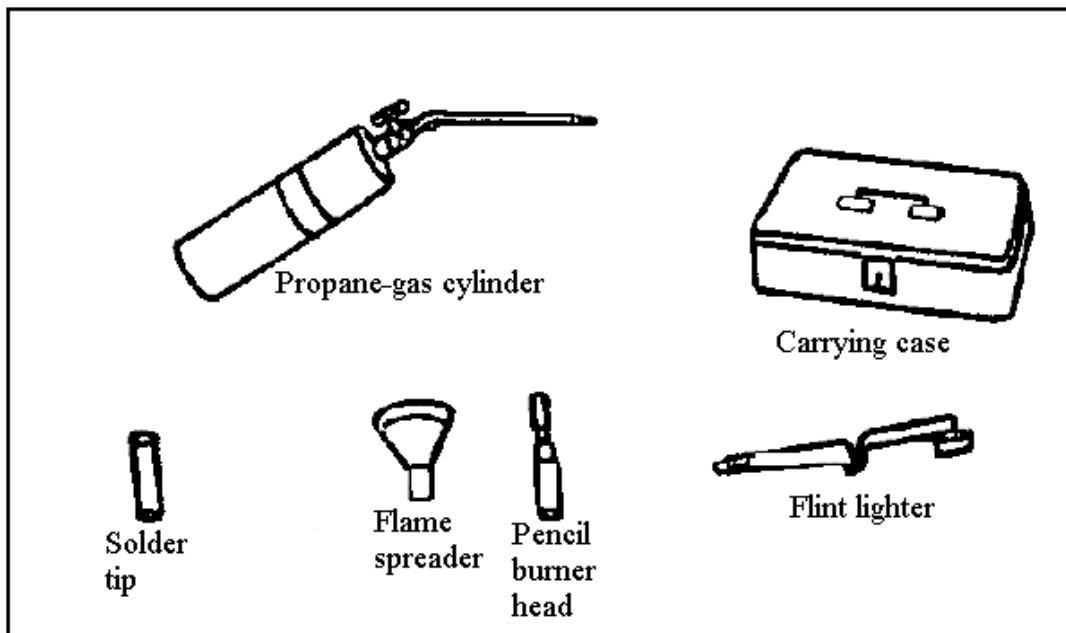

Figure 052-248-1000-7
(1) Wipe clean after each use.
(2) Apply a rust preventive compound to all metal surfaces, and store in a dry place (for long-term storage).
5. Maintain the soldering torch kit (Figure 052-248-1000-7). Wipe off the cooled torch head with a clean, dry cloth.